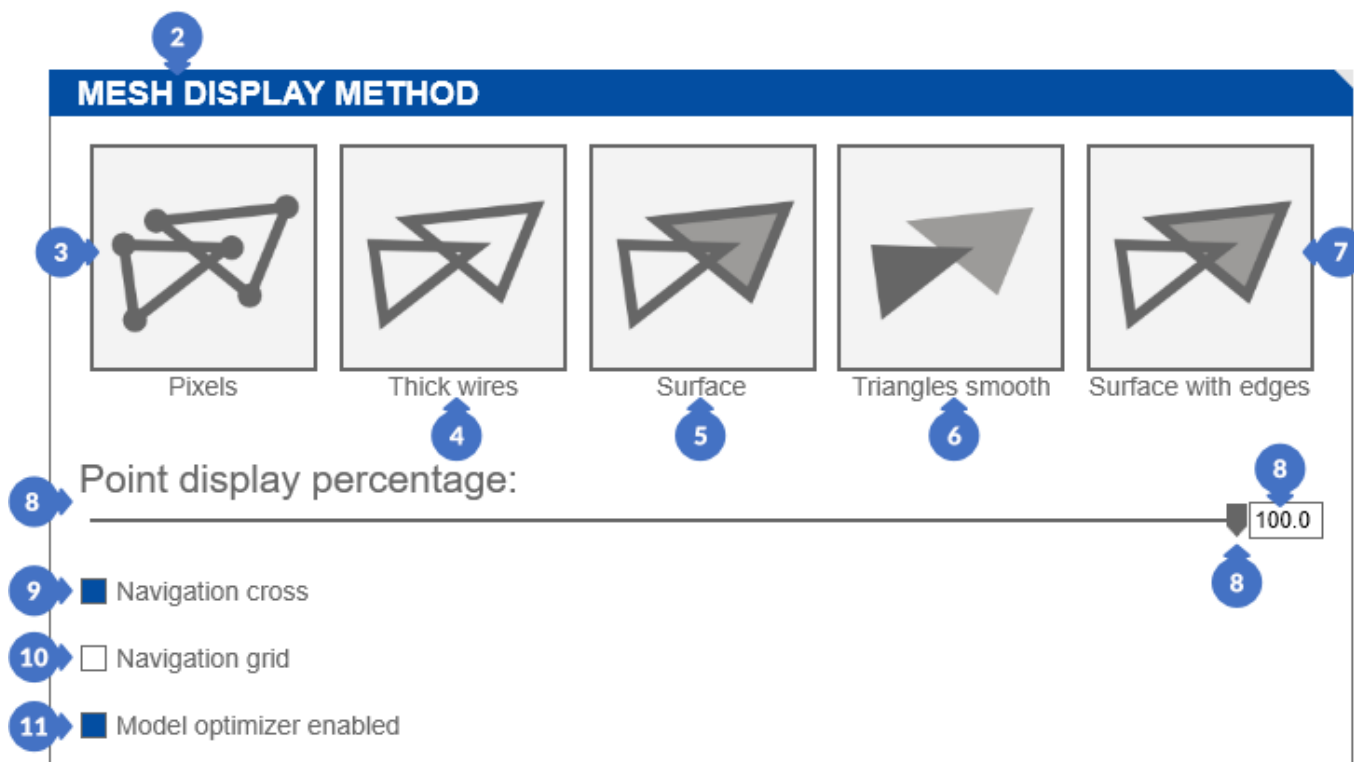

Figure 76. Grids display method settings
There are three groups in the *View settings* tab (1) (Figure 75). The first is the *MESH DISPLAY METHOD* (2) (Figure 76) group which is used, among others, to change the representation of the scan view to:
- (3) – *Pixels*
The last option in this group is *Model Optimizer Enabled* (11) (Figure 76), when the zooming in, zooming out or rotating the scan is selected, it causes a short-term change of the display to a reduced number of points, which speeds up the performed action. After the transition is finished the view of scan display comes back to the normal operation. By disabling this option, the above visualization effect is invisible, but the specific actions on the display require more computer resources to be executed.